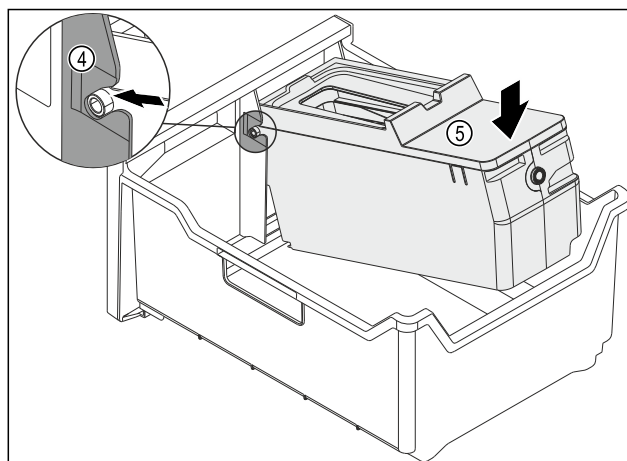

Fig. 124
- Installing the EasyTwist-Ice body: Push the axes for the EasyTwist-Ice body into the guides Fig. 124 (4).
- Press the EasyTwist-Ice body Fig. 124 (5) down at the back.